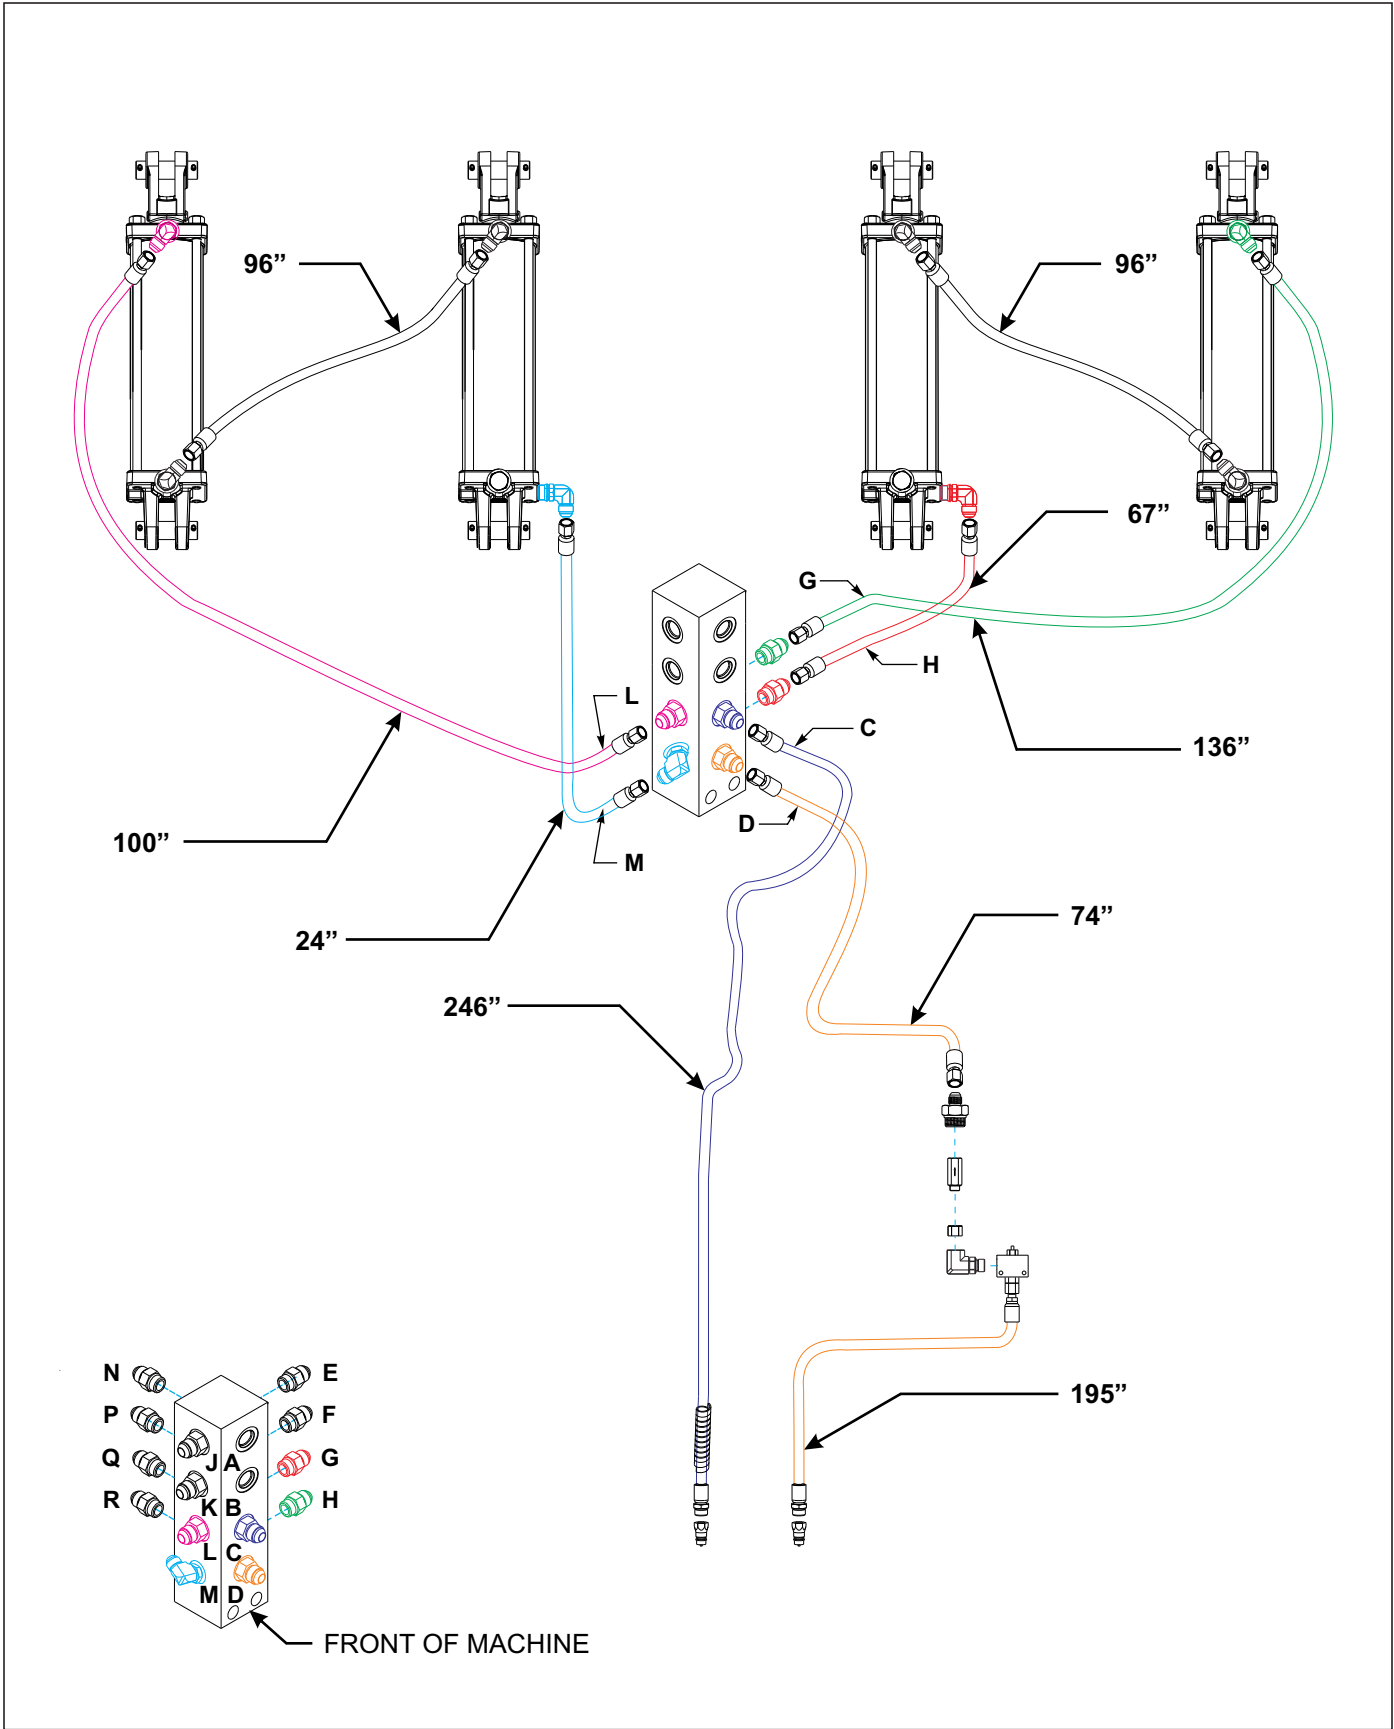

Figure 3-22: Hydraulic Lift Installation 19'-25'
2. Install 90 degree regular adapter fittings in both ends of all lift cylinders. Install the lift cylinder hoses as shown in **Figures 3-22 through 3-24**. Route the hoses along the right side of the hitch, and through the hose loops provided along the frames. Wrap the two ends of the lift hoses with a blue hose wrap.
1. Attach the finisholl to a tractor sized for field operation and connect the lift cylinder hoses. Charge the lift system with hydraulic oil as described in Figures 3-22 and “Hydraulic Lift System” on page 4-2.